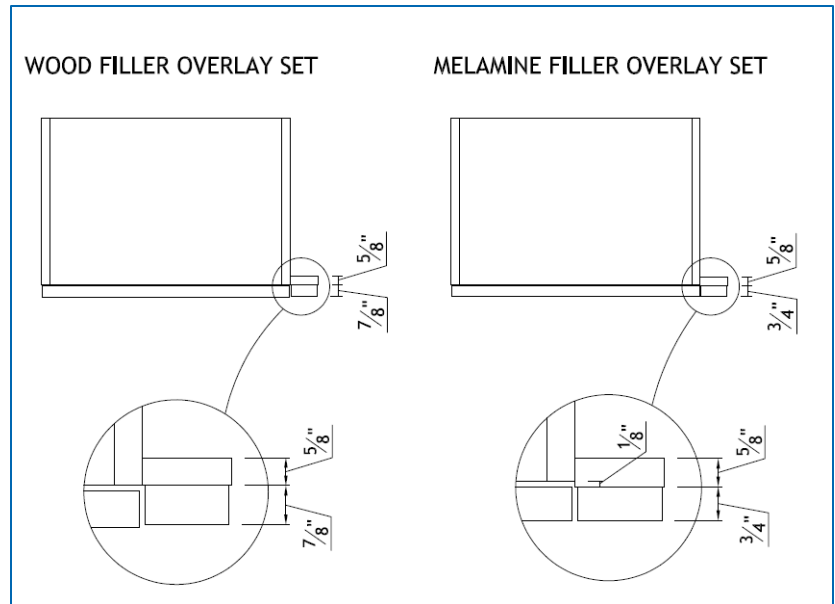

Figure 8
- Pay attention to the thickness of the **overlay** filler. (*figure 8*)